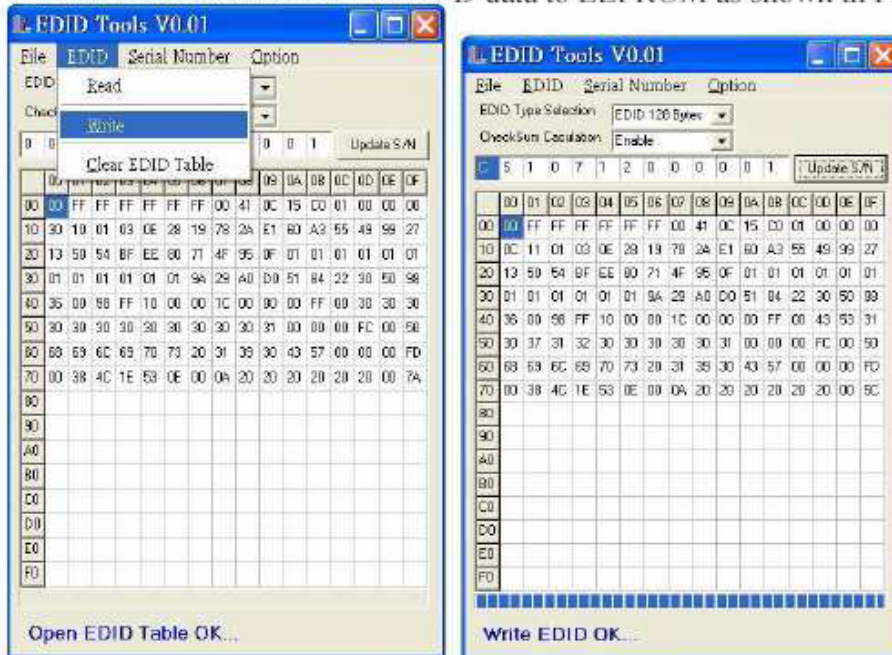

Fig.9
5. Press **EDID->Write** to write EDID data to EEPROM as shown in Fig. 9.